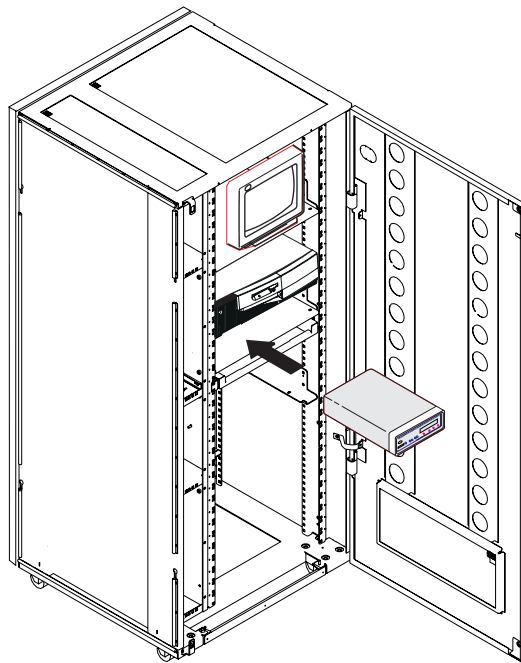

Figure 1-23. Installing the 7858 in the Controller Expansion
3. Slide the 7858 in the controller expansion as shown in Figure 1-23.